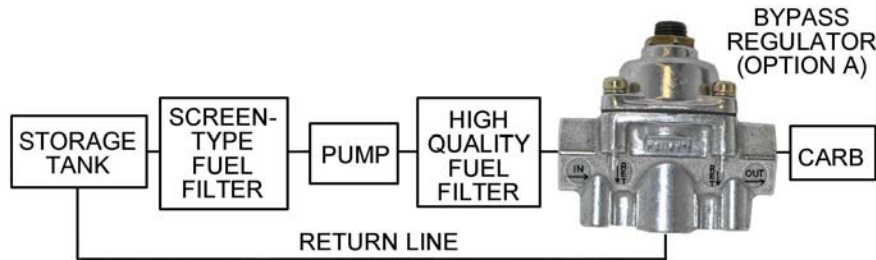

Figure 2a
3. The 12-803BP bypass regulator has one bypass or return port. This port (labeled "RET") must be connected to the storage tank with a fuel line the same size as the supply line (3/8" I.D. is recommended). See Figures 2a & 2b.
5. Connect the other line per Figure 2a or 2b.